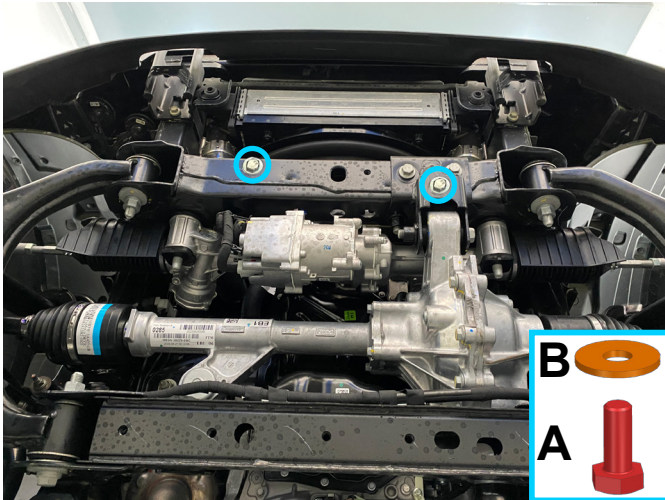

Fig. 1
1. Slightly screw the bolts M10x30 (item A) with washers 10 (item B) as shown in fig.1.